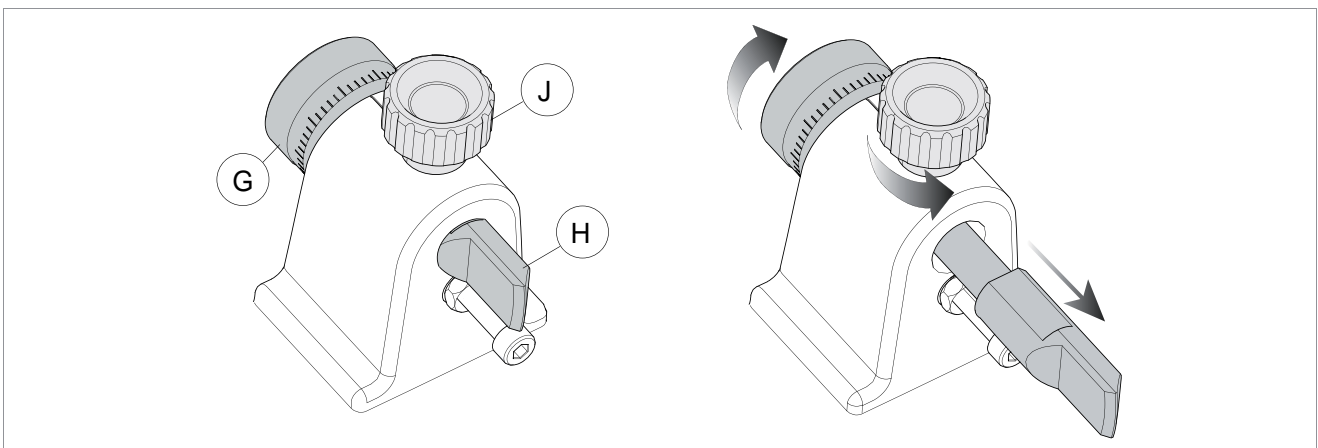

Fig. 31
- 1) Loosen the knob (J) (Fig. 31).
- 2) Loosen the ring nut (G) completely and remove the tracer. Attention: the spring may stay in place.
- 3) Fit a new tracer and tighten the ring nut (G).